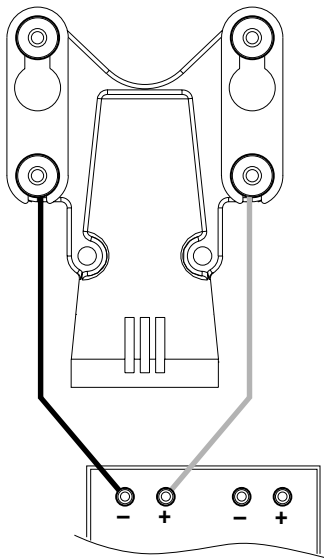

FIGURE 3
- 2) Repeat the procedure for the second speaker. See Figure 3.